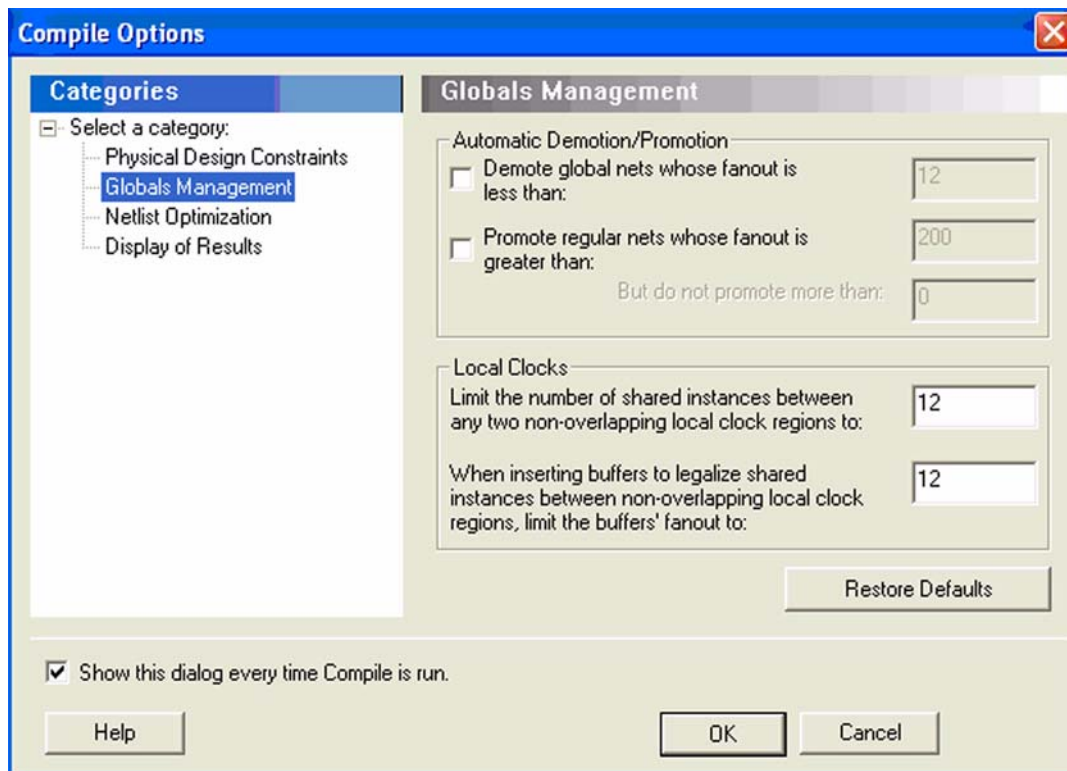

Figure 3-12 • Globals Management GUI in Designer
2. If some signals have a very high fanout and are candidates for global promotion, promote those signals to global using the compile options or PDC commands. Figure 3-12 on page 3-17 shows the Globals Management section of the compile options. Select **Promote regular nets whose fanout is greater than** and enter a reasonable value for fanouts.